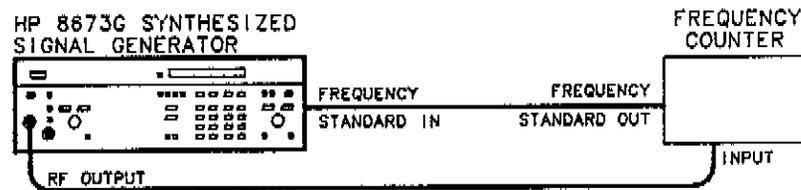

Figure 4-4. Frequency Range and Resolution Test Setup
1. Connect the equipment as shown in Figure 4-4. Set the Signal Generator rear panel FREQ STANDARD INT/EXT switch to EXT. Remove the FREQ STANDARD jumper and connect A3J10 to the 10 MHz frequency standard output of the frequency counter. With the Signal Generator and the frequency counter sharing a common timebase, the frequency counter should agree with the Signal Generator FREQUENCY MHz display ± 1 count with any selected frequency counter resolution.